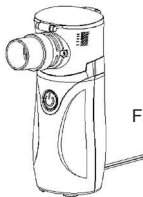

Fig. 9
- Connect mouthpiece to the medicine tank opening (Refer to Fig. 9)